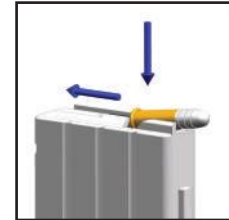

figure 3
1. Put the cartridge on the feeder, near the magazine feed lips (figure 3).
2. Push the bullet down and to the backside of the magazine (figure 3).